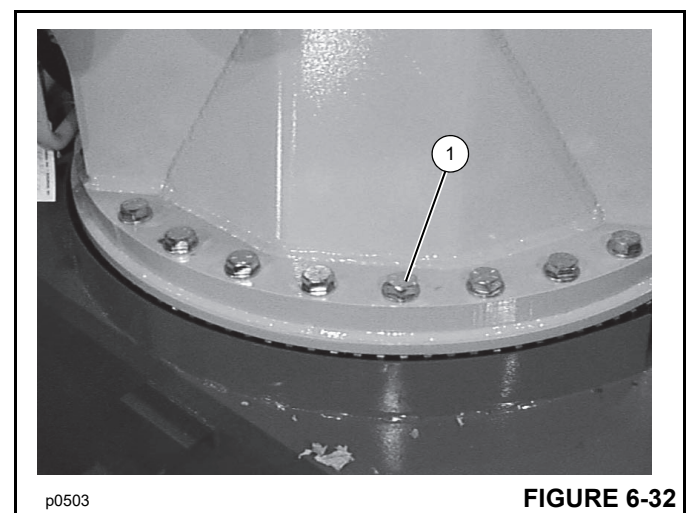

FIGURE 6-32
Tighten the twenty six (26) 7/8" mast mounting bolts (1, Figure 6-32) to 619 Nm (455 lb-ft). Tighten each bolt in a crisscross pattern.